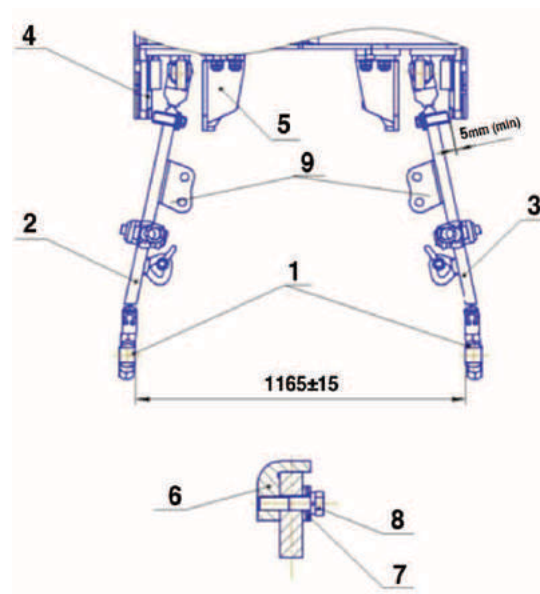

Fig. 105
Lower linkage rods (Fig. 105) are to be adjusted as follows:
- lift the linkage, providing for the distance of 1180...1280 mm from the supporting surface to the lower rods; in doing so, the rods 2 and 3 should be located between out-er stop 4 and internal stop 5 (Fig. 105). Stops 744R3-46 28021-1, pos. 6, should be in-stalled at the side of outer stops.